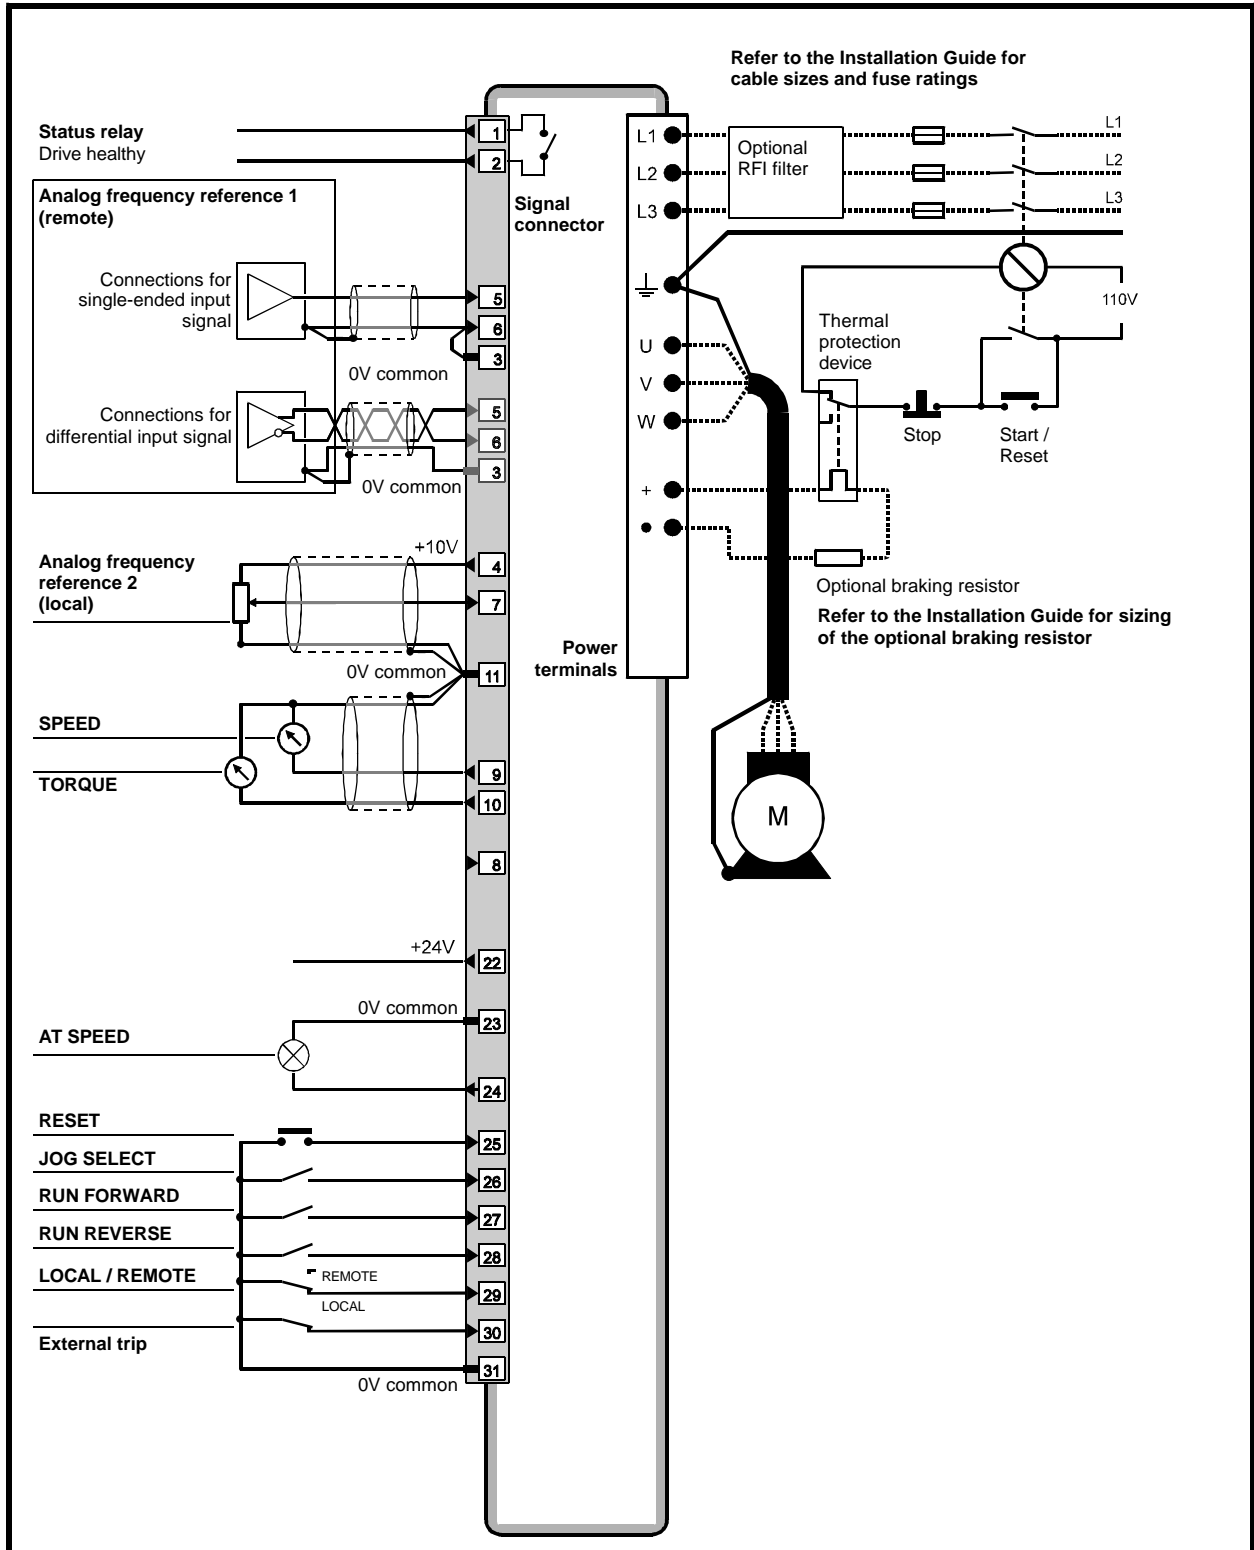

Figure 2-5 Power connections, and signal connections for Terminal mode (Macro 1 only)
- Figure 2-5 or 2-6 in this chapter in order to make the signal and power connections for operation in Terminal or Keypad mode. Note that Macros 2, 3, 4, 5, 6 operate only in Terminal mode. If one of these macro configurations is to be enabled after the initial setting up covered in this chapter, you may wish to set up the Drive now in Terminal mode in order to learn how to operate it in this mode.